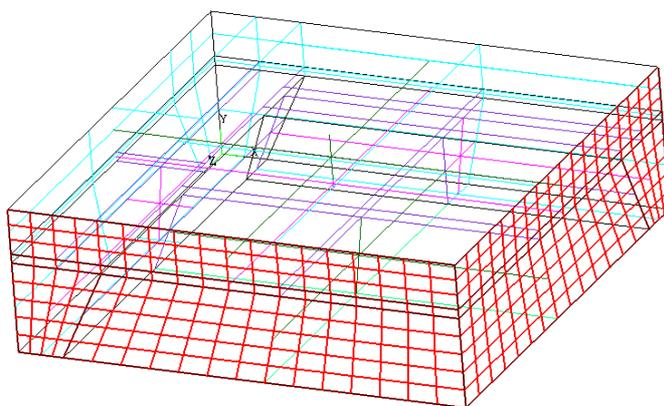
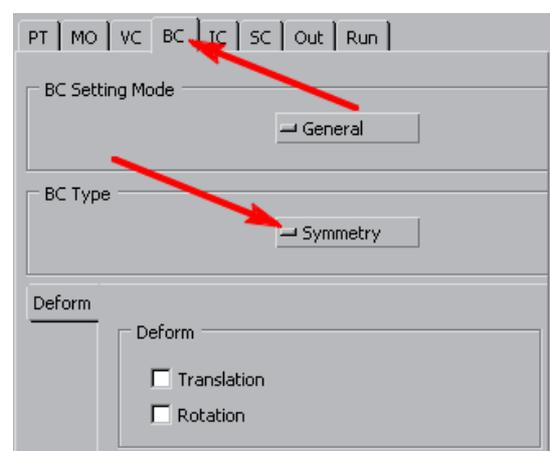

Fig.43. The view of the model – symmetry planes selected
Fig.44. The BC tab – changing BC type from Wall to Symmetry
5.5.1 Select all surfaces along symmetry planes and group them with the *Group* button (see Fig.43). In the *BC Type* field set their type to *Symmetry* (see Fig.44), forcing the solver to take into consideration a missing $\frac{3}{4}$ of the model. Confirm the changes with the *Apply* button at the bottom of the right panel.